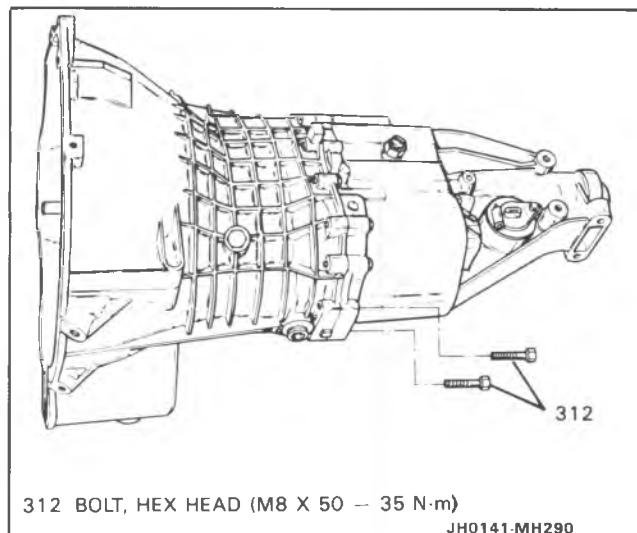

Figure 99 Bolts Install
- Switch (313) to 9 N·m (7 Lb. Ft.).
24. Bolts (312) (Figure 99).